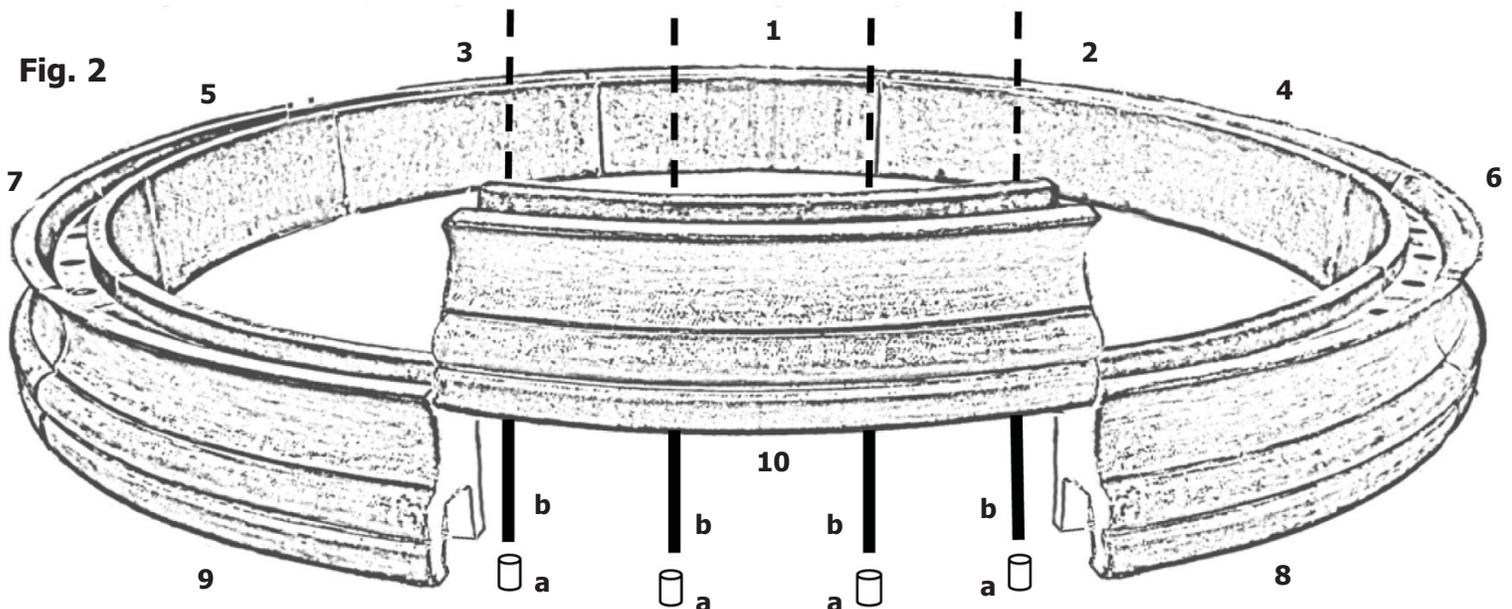

Fig. 2
Fill and level the entire area with sand approx. 2-inches. Using 4" bender board, stake a 13' (3249-12) or 17' (3249-16) diameter to create a concrete slab cast. Place ½" rebar 1' off center and raise 2" from sand using concrete blocks. Pour and finish a 4" concrete slab. Cure slab for 7 days. Place and space each of the Bracci Basin components 3249 (-L) and 3249-T(L) see number sequence in figure 2. Space each component piece approximately ½" using a carpenter's pencil which has a ½" width. Note that when placing the bases, the caps 3249-T(L) are placed with an off-center overlap. Remove caps 3249-T(L) and mark the location of the holes cast in each base component (4x10) to anchor the basin to the concrete foundation (see Fig. 2).
Remove all base components and drill ¾" holes (a) approximately 2" deep at all previously marked spots. Remove dust and debris, apply epoxy to the holes (a). Use shims to place base components ½" from concrete slab. Set first base component and place rebar in the holes filled with epoxy. Each base component requires 4 pieces of ½" rebar (b) approx. 12" long (not included). Using the exact same spacing during the dry set-up, place each component ½" up from the slab using shims. Fill all joints, with a dry-pack grout moving left to right (see number sequence in figure 2). This to ensure mortar remains fresh all the way around. Wait 24-hours to remove shims and fill all holes with mortar to secure rebar pieces followed by placing each of the 3249-T(L) with an off center overlap to the bases in the sequence shown in the figure below maintaining the same spacing as was used during the dry set-up.